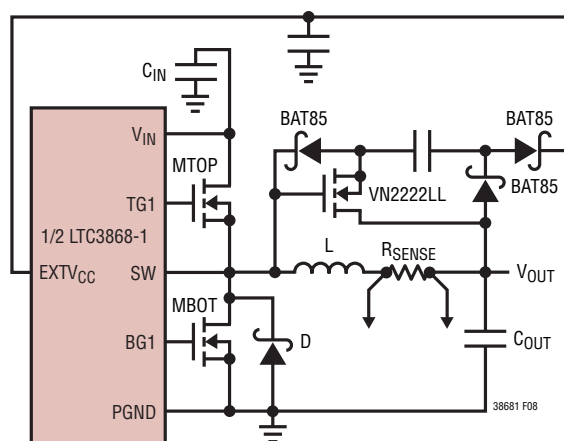

Figure 8. Capacitive Charge Pump for EXT_{VCC}
4. EXTV_{CC} Connected to an Output-Derived Boost Network. For 3.3V and other low voltage regulators, efficiency gains can still be realized by connecting EXTV_{CC} to an output-derived voltage that has been boosted to greater than 4.7V. This can be done with the capacitive charge pump shown in Figure 8. Ensure that $\text{EXTV}_{\text{CC}} < V_{\text{IN}}$.